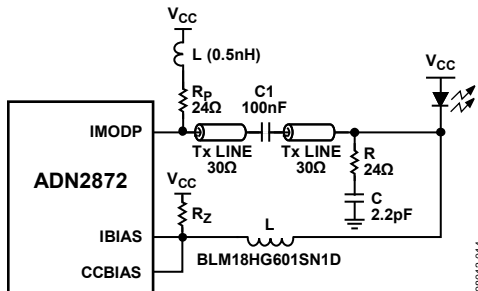

Figure 32. Recommended Interface for ADN2872 AC Coupling
This on-chip resistor helps to damp out the low frequency oscillation observed from some inexpensive lasers. If the on-chip resistance does not provide enough damping, one external  $R_z$  may be necessary (see Figure 32 and Figure 33).
The schematic in Figure 32 describes the recommended circuit for interfacing the ADN2872 to most TO-Can or coax lasers. These lasers typically have impedances of 5 Ω to 7 Ω and have axial leads. The circuit shown works over the full range of data rates from 155 Mbps to 3.3 Gbps including multirate operation (with no change to PAVCAP and ERCAP values); see Figure 18, Figure 19, and Figure 20 in the Typical Performance Characteristics section for multirate performance examples. Coax lasers have special characteristics that make them difficult to interface to. They tend to have higher inductance, and their impedance is not well controlled. The circuit in Figure 32 operates by deliberately mismaturing the transmission line on the laser side, while providing a very high quality matching network on the driver side. The impedance of the driver side matching network is very flat vs. frequency and enables multirate operation. A series damping resistor must not be used.
The 30 Ω transmission line used is a compromise between drive current required and total power consumed. Other transmission line values can be used, with some modification of the component values. The R and C snubber values in Figure 32, 24 Ω and 2.2 pF, respectively, represent a starting point and must be tuned for the particular model of laser being used. Rp, the pull-up resistor, is in series with a very small (0.5 nH) inductor. In some cases, an inductor is not required or can be accommodated with deliberate parasitic inductance, such as a thin trace or a via placed on the PC board.
Recommended component layouts and gerber files are available by contacting sales at Analog Devices. Note that the circuit in Figure 32 can supply up to 56 mA of modulation current to the laser, sufficient for most lasers available today. Higher currents can be accommodated by changing transmission lines and backmatch values. This interface circuit is not recommended for butterfly-style lasers or other lasers with 25 Ω characteristic impedance. Instead, a 25 Ω transmission line and inductive (instead of resistive) pull-up is recommended. Contact sales for recommendations on transmission lines and backmatch values.
In Figure 32 and Figure 33, Resistor Rz is required to achieve optimum eye quality. The recommended value is approximately 200 Ω ~ 500 Ω.
**Table 6. ADN2872 Response to Various Single-Point Faults in AC-Coupled Configuration, as Shown in Figure 32**